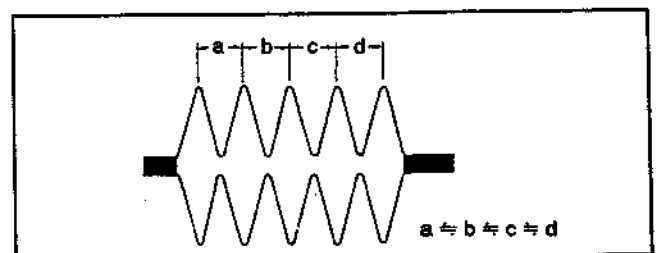

Fig. 42
4-5. CUE AND REV WAVEFORM CHECK (Fig. 42)
- 1) Play back the alignment tape for tracking adjustment and set the REV mode. Confirm that waveform peaks maintain a constant pitch of 5 seconds or more (Fig. 42). In case pitch is not constant, perform section 4-2.Tracking Fine Adjustment and section 4-4. No.7 Guide Adjustment.
- 2) Set the CUE mode. Confirm that waveform peaks still maintain a constant pitch of 5 seconds or more (Fig. 42). Otherwise, perform section 4-2 Tracking Fine Adjustment.